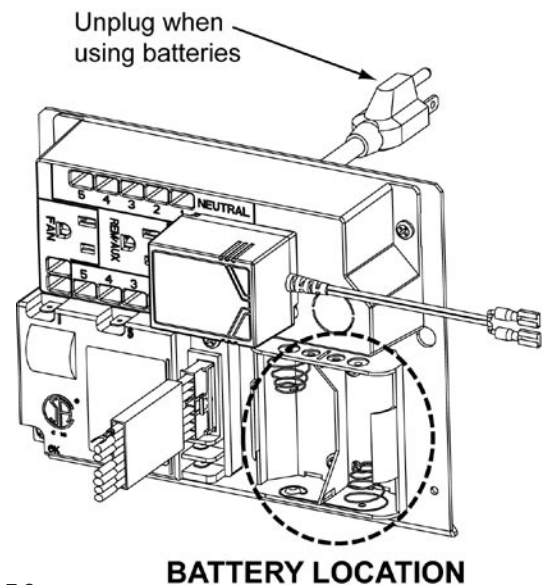

Figure 7.2
3. Place two "D" cell batteries into the battery holder. (Figure 7.2)